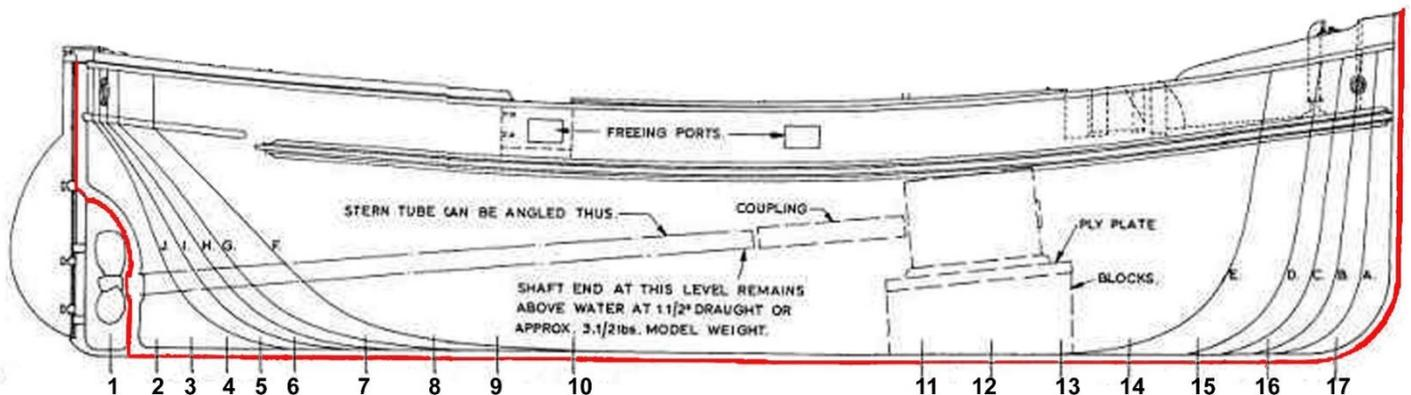

Figure 14. Side view of the Clyde puffer hull.
The second part of the Lines Plan you need is the "Sheer Plan". This is a side view of the hull and the important information for us on this plan is the location of each of the ribs we will make. If you are working from a modeller's plan, the Sheer Plan is probably incorporated into a profile view of the vessel. The profile view and Sheer Plan for the Clyde puffer is shown later in Figure 14.
plan or the profile. The side view of the Clyde puffer hull is shown in Figure 14. Along the bottom, this shows the location of each rib along the length of the hull. A line should be marked down the centre of the building board, and each rib centreline aligned with it. The ribs should be secured to the building board so that they do not move while the planks are glued.
19. The final step prior to planking is to fit the keel. The outer edge of the keel follows the outline of the hull shown in red in the side view of Figure 14. Its depth is a matter of personal choice, but obviously has to match the depth of the notch cut into the ribs. The keel can be made in one piece, or several pieces glued together. If made from several pieces the joints should have overlaps to give it strength.
2. Vertical "Bread and butter". This is a very similar method except that the planks are arranged vertically. This uses "buttock lines" to define the shape of the planks. Buttock lines are shown on the Sheer Plan. The lines marked A to J on Figure 14 are examples of buttock lines.